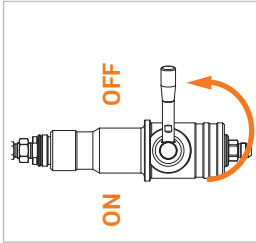

Figure 13
- ▶ Turn the actuation lever (Pos. 3) on the fueling nozzle through 180° to the OFF position (Figure 13).